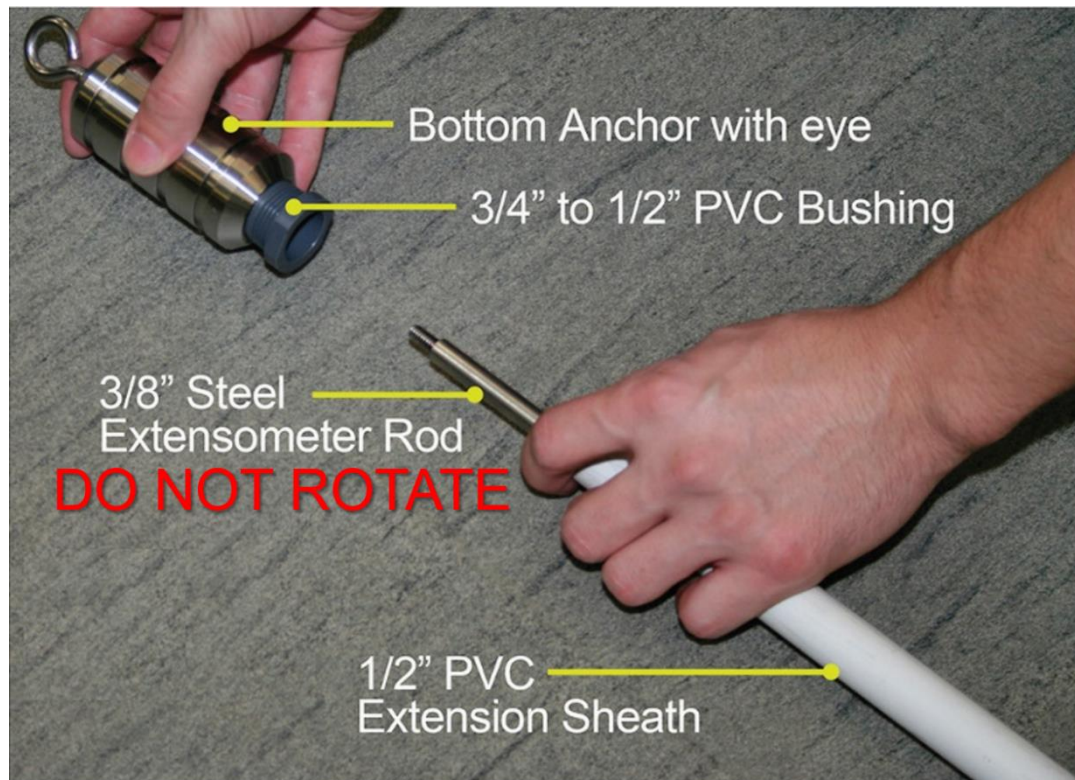
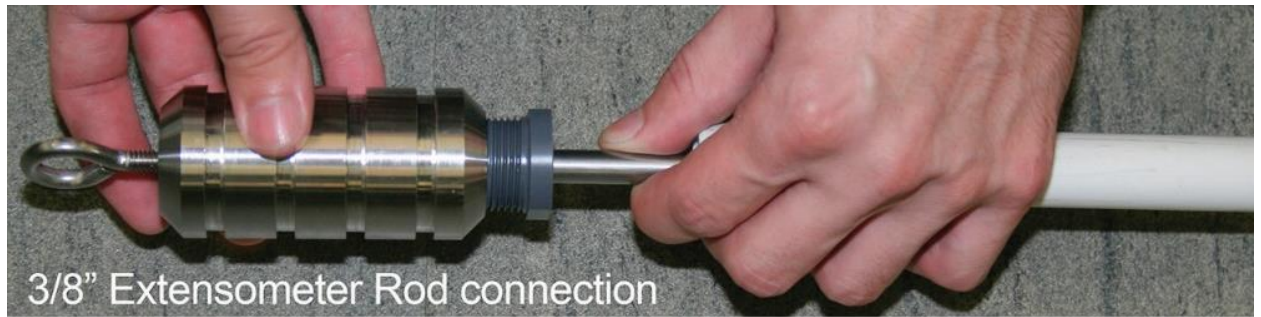

FIGURE 4-4 ATTACHING THE BOTTOM GROUTABLE ANCHOR TO THE EXTENSOMETER ROD
FIGURE 4-5 EXTENSOMETER ROD CONNECTION TO GROUTABLE ANCHOR
- 1 Thread the $\frac{3}{8}$ " extensometer rod into the bottom anchor, which has an eye bolt at the bottom, to attach a safety line. Apply a small amount of Loctite #242 to the threads. Loctite thread locker is used on all rod-to-rod threaded connections (see Figure 4-4 and Figure 4-5).